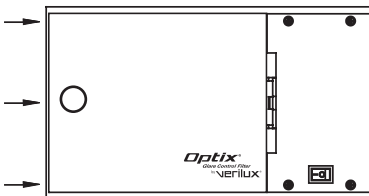

FIG 5
8. Slide Optix® filter back into place and re-install thumbscrew (Do not over tighten) Fig. 5.